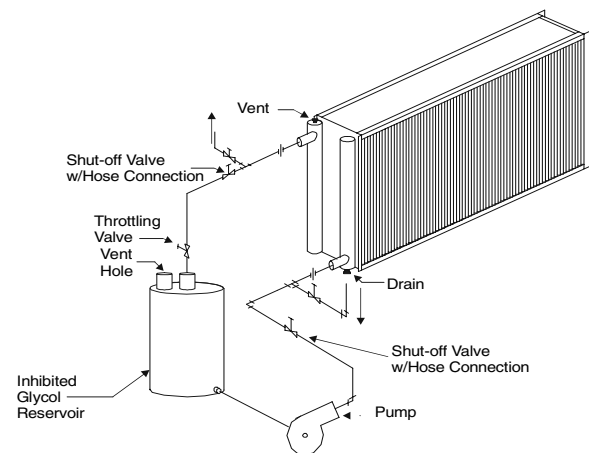

Figure 3 - Flushing System Diagram
6. Connect the flushing system to the coil. A typical system is shown in Figure 3 - Flushing System Diagram.